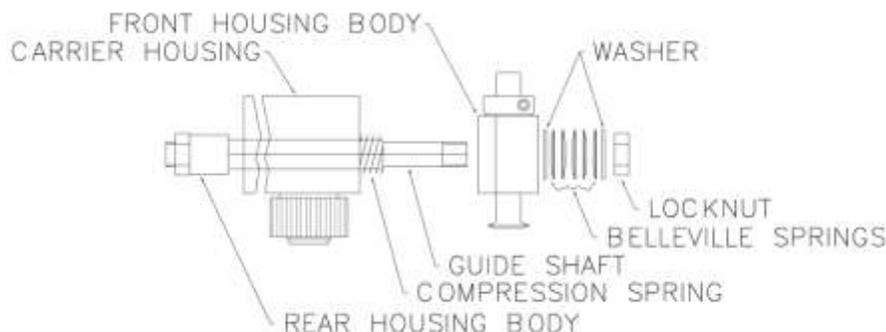

Figure 9: Housing Body Reassembly
1. Refer to Figure 9.
3. Slide the short shoulder ends of the guide shafts (8) into the rear housing body. Finger tighten a 5/8 nylon insert locknut on each end.